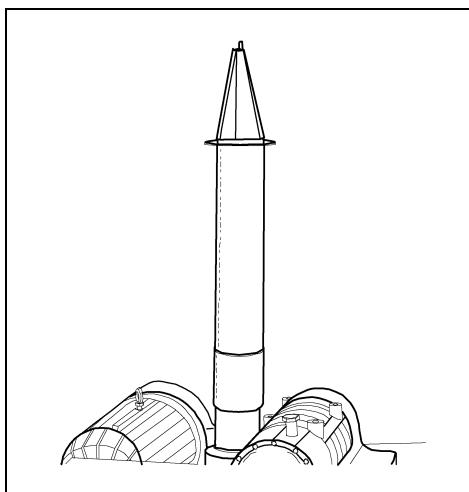
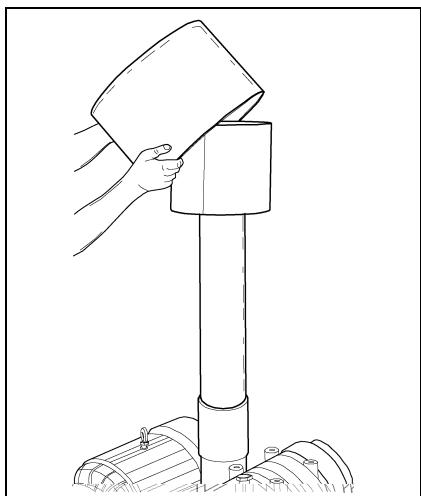
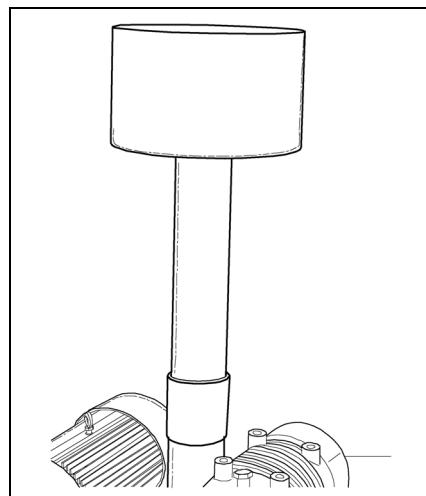

Figure 4E
Figure 4F
Figure 4G
1. The air filter extension tube and housing are connected to the blower inlet by a compression coupler (*See Figure 4E, Figure 4F and Figure 4G*). For extended filter life, if the pneumatic system is being operated in extremely dirty conditions, a longer extension tube can be used between the blower inlet and the air filter. BE SURE the air filter is positioned so that routine inspection and service can be performed.
2. Place the air filter element with pre-filter on the base and cover with the filter canister using the 3/8" wing nut and washer. The wing nut does not need to be more than finger tight (*See Figure 4F and Figure 4G*).